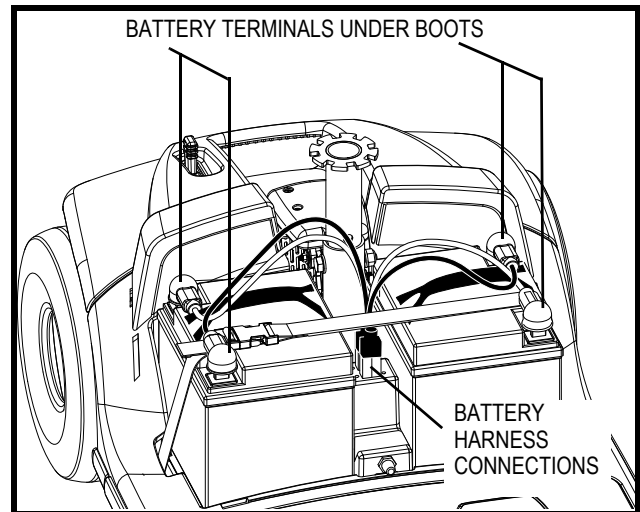

Figure 12. Battery Removal/Installation
3. Disconnect the battery harnesses by pulling them straight up. See figure 12.
6. Place a new battery in each battery well. Face the battery terminals of each battery away from the seat post. See figure 12.